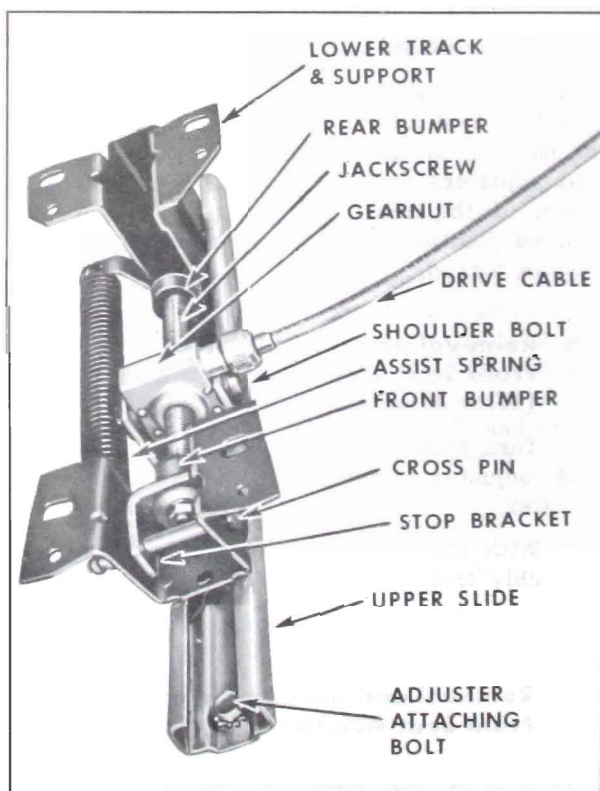

Figure 5-2—Seat Adjuster - Electric Horizontal
2. Detach power drive cable from gear nut of adjuster to be removed (Figure 5-2).
3. Remove seat adjuster-to-seat bottom frame front and rear attaching bolts (Figure 5-2).
3. Using a suitable tool (preferably a "clutch" type screwdriver) remove two shoulder bolts securing gear nut to upper slide portion of seat adjuster assembly (Figure 5-2).
4. Remove retainer that secures stop bracket crosspin to adjuster front pedestal and remove crosspin (Figure 5-2).
2. Using a suitable tool (preferably a "clutch" type screwdriver), remove two shoulder bolts securing gear nut to upper slide portion of seat adjuster assembly (Figure 5-2).